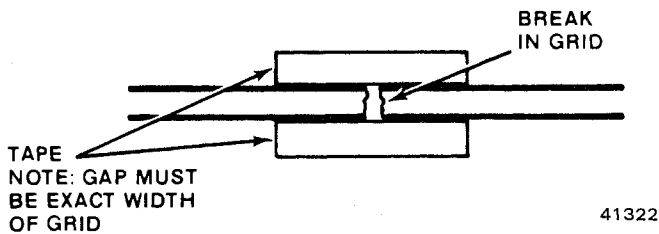

Fig. 3U-3 Tailgate Window Defogger Grid Repair
- (1) Using suitable marking pencil, mark location of broken or open grid on exterior surface of glass.
- (2) Using fine steel wool, lightly rub area to be repaired (inside of tailgate window). Clean area with isopropyl alcohol (rubbing alcohol).
- (3) Attach two strips of cellulose tape (inside of tailgate window) above and below break in grid as shown in figure 3U-3.